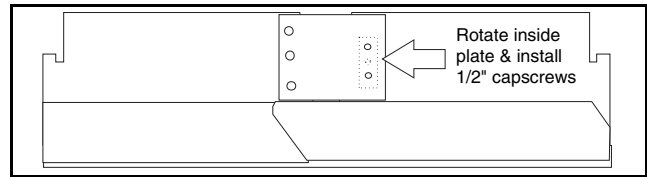

Figure 29
- 3) Loosen nut on cover plate of left inside upper screed frame and rotate plate 90° as shown in Figure 29.